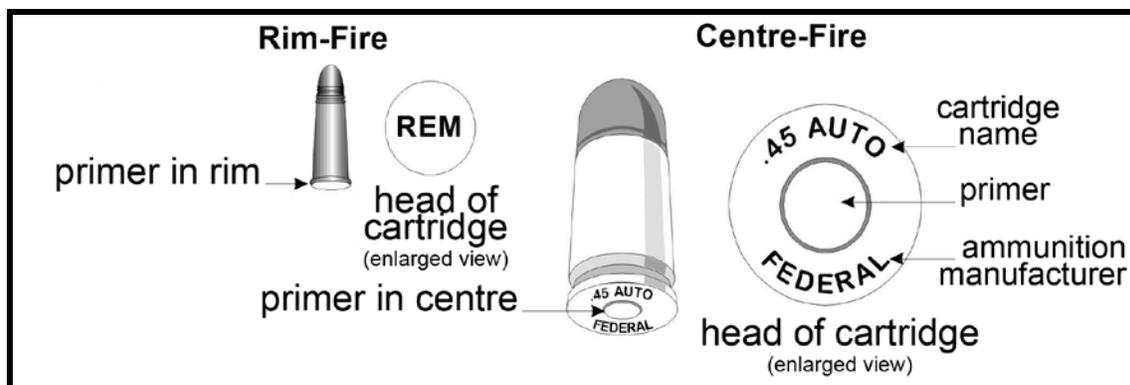
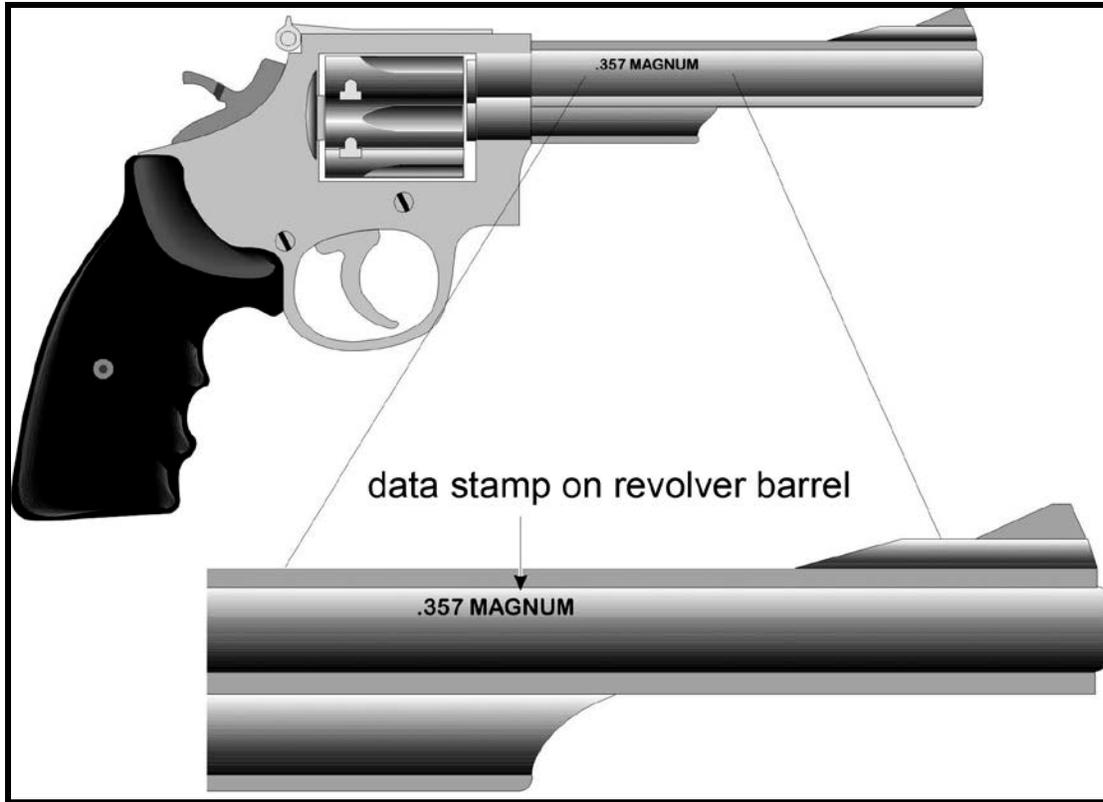

Figure 92. Example of a rim-fire and centre-fire cartridge with head stamp
Figure 93. Example of a barrel data stamp
- Manufacturers produce firearms of many calibers. Always make sure that the cartridge name on the head stamp (Figure 92) matches the information on the data stamp, on the barrel or slide of the firearm (Figure 93), if available. This is the most important point to remember. Then choose the right type of ammunition for your firearm and target. The right shape or weight of the bullet is an example. If in doubt, consult a firearms or ammunition dealer.